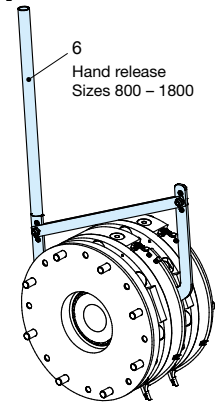

Fig. 4
A hand release (6) is installed manufacturer-side, dependent on Size and Type (see Type key pages 5 and 7 and Table 1). From Size 800, both circuits are released simultaneously with a lever (see Fig. 4).